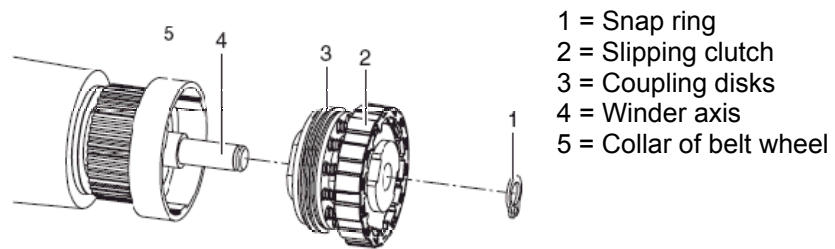

Figure 9
3. Remove the snap ring (1).
4. Pull coupling or brake (2) from the winder axis (4, Figure 9).